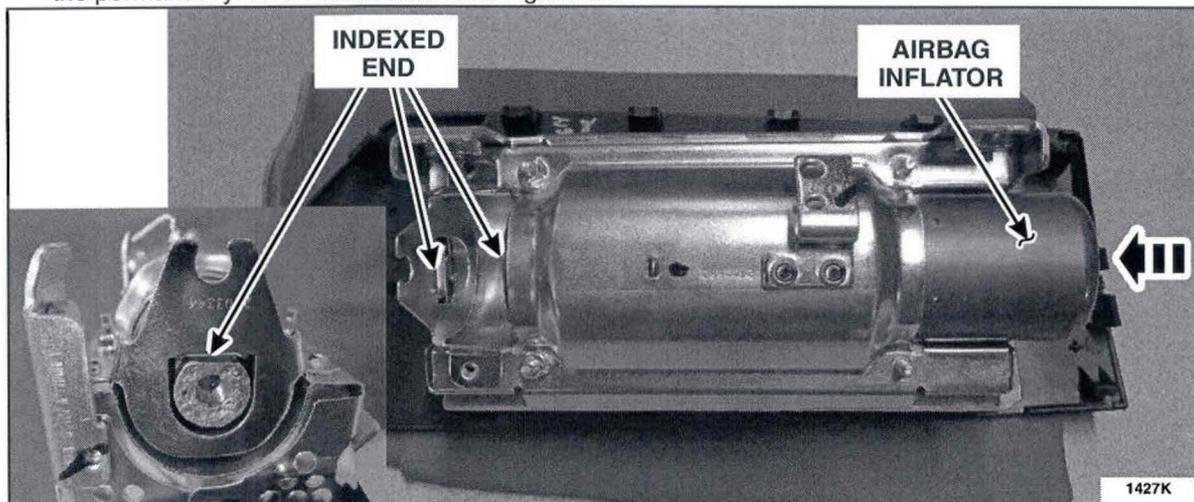

FIGURE 10
10. Install the *new* passenger airbag inflator into the airbag assembly, ensuring the indexed end mates to the permanently mounted bracket. See Figure 10.